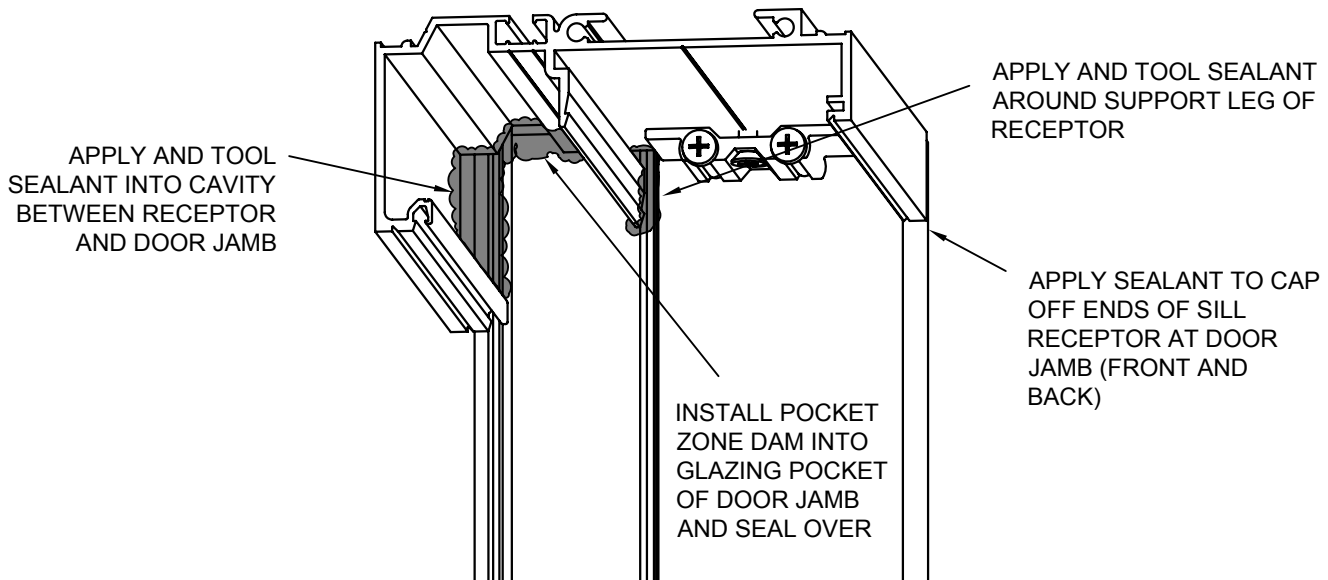

FIGURE 2
- STEP E:** Apply sealant to the top glazing pocket of the door jamb and the receptor as shown. (Figure 2)